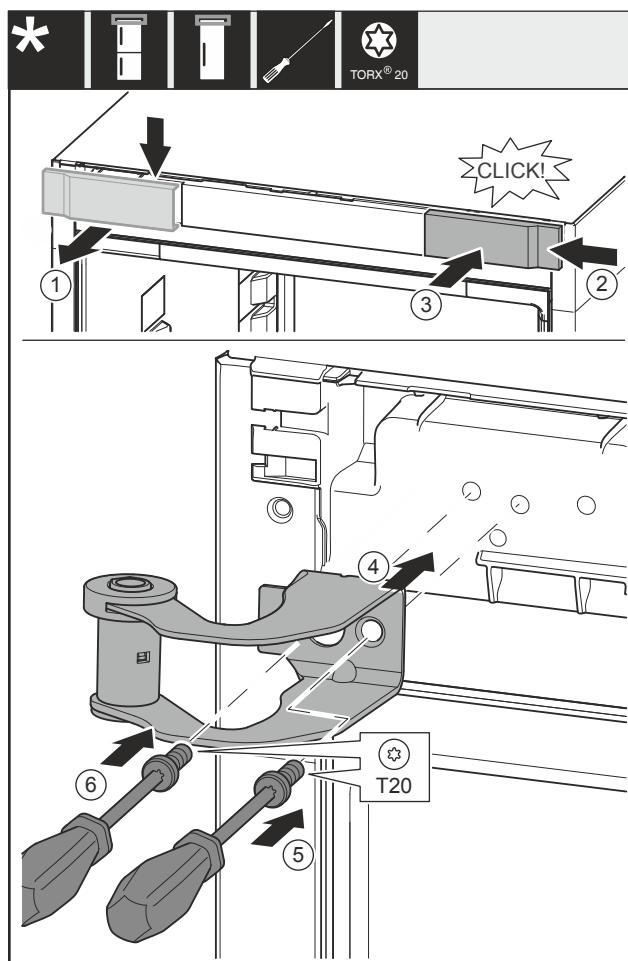

Fig. 13
- ▶ Remove the cover Fig. 13 (1) from the top towards the front.
- ▶ Hang the cover Fig. 13 (2) from the right turned by 180° to the other side.
- ▶ Snap in the cover Fig. 13 (3).
- ▶ Attach the top swap bearing block Fig. 13 (4).
- ▶ Tighten the screw Fig. 13 (5).
- ▶ Tighten the screw Fig. 13 (6).